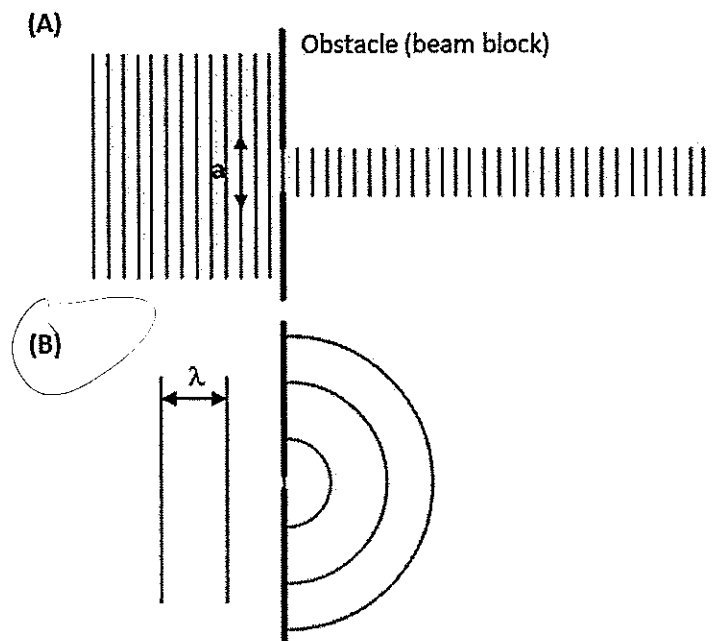

Figure 1: Optical phenomena when light meets an obstacle
- (b) When a wave encounters an obstacle, two different phenomena shown in Figure 1(A) and (B) could be observed. Explain the conditions where one can observe either case (A) or case (B) based on the aperture size (a) and the wavelength (λ). (6 marks)